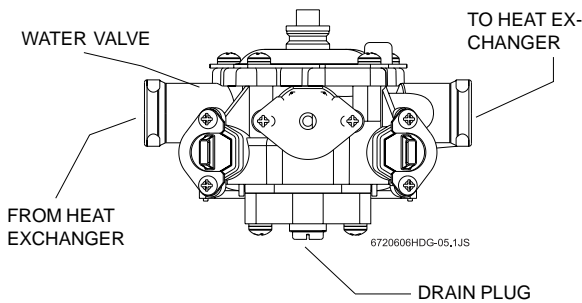

Figure 8
- Make sure drain is closed. See figure 8, below.